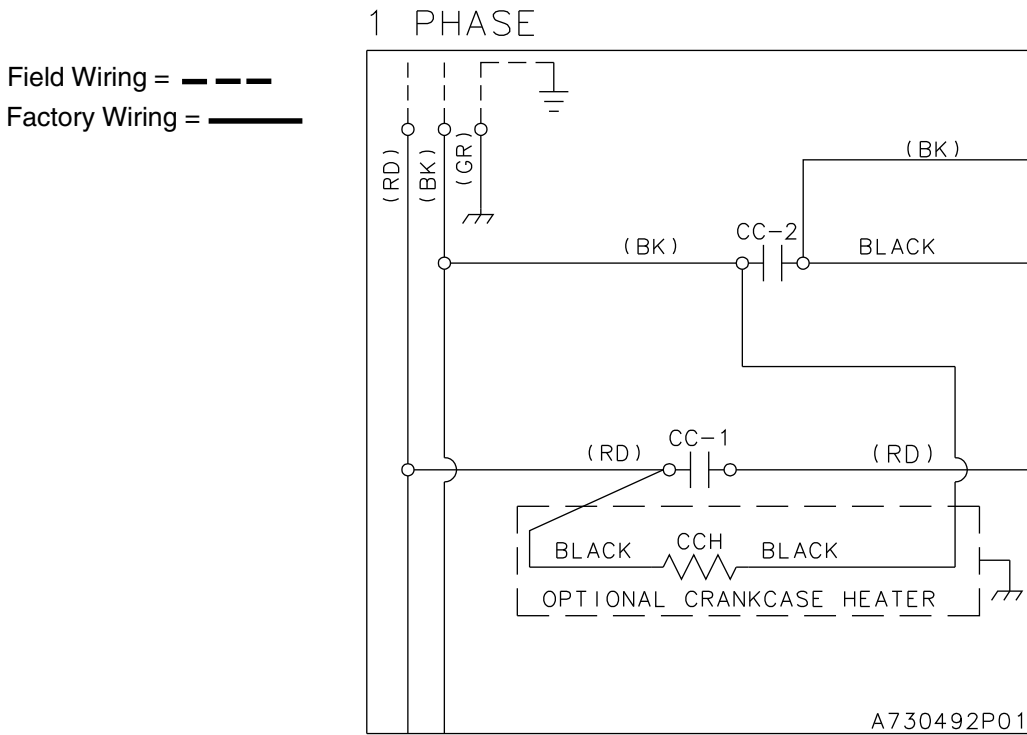

Figure 4. Single Phase Wiring
(CC) compressor contactor as shown in the diagram. Refer to Figure 4 if you have a single phase unit. Refer to Figure 5 if you have a three phase unit.
NOTE: Connect both leads on the line side of the contactor. (See Figures 4 (page 3) or 5 (page 4))